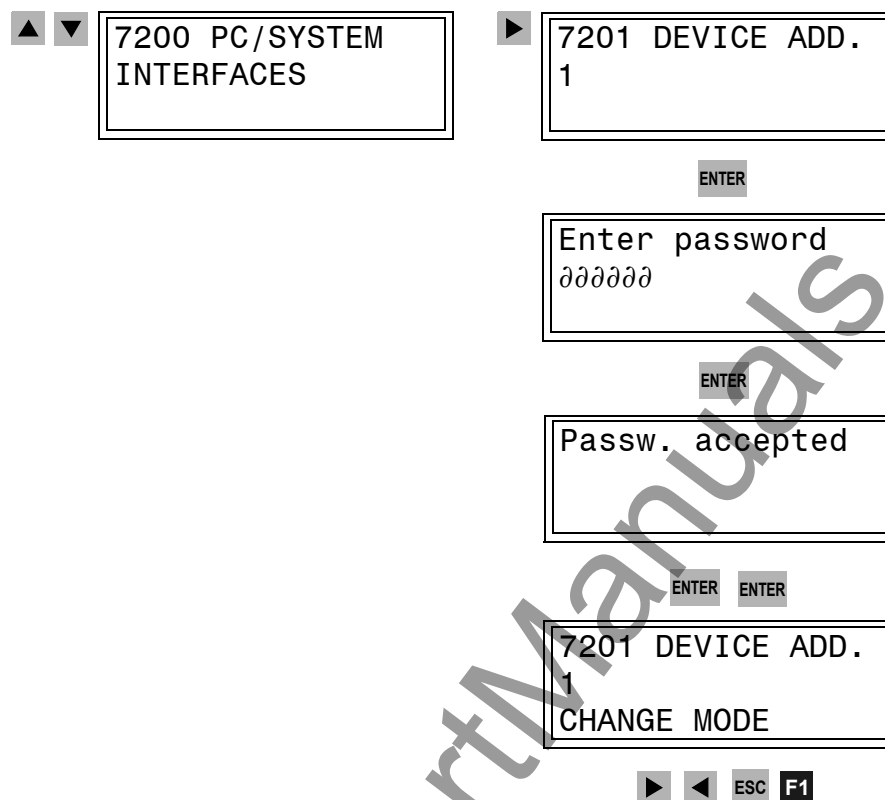

Figure 3-5 Operator menu for setting the device address in the bay units
- ❑ Use the navigation keys ▲ or ▼ to navigate to the menu item **7200 PC / SYSTEM INTERFACES**, and the navigation key ► to go on to the submenu for the parameter **7201 DEVICE ADD.** (see Figure 3-5, page 42).